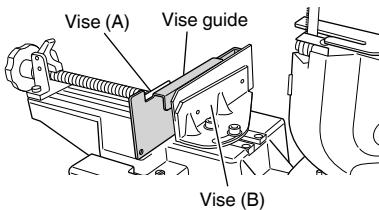

Fig. 9
(1) Apply the vise guide to vise (B), and lightly secure the vise guide using vise (A). (Fig. 9)